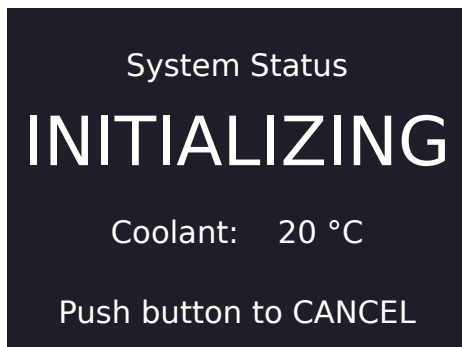

Fig. 16 - Initializing screen
4. To activate the Cooler, press the **MODE** button. Initialization of the system begins, and the indicator will blink green (Fig. 16).